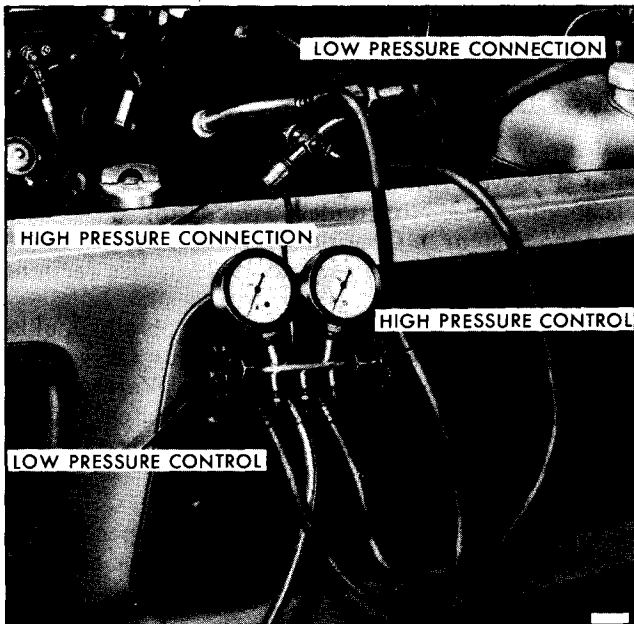

Figure 28—Charging Station Installed
6. Referring to Figure 28, turn the high pressure control one turn counterclockwise (open). Crack